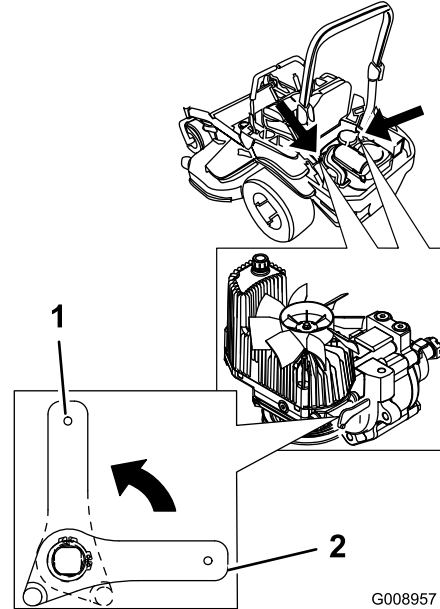

Figure 37
2. Rotate the release-valve levers vertically to push the machine (Figure 37).
4. Rotate the release-valve levers horizontally to run the machine (Figure 37).